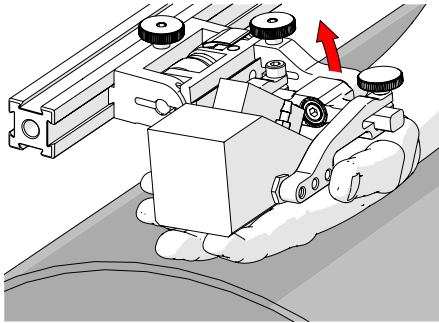

Fig. 50 - Lift to Latched position
1. Ensure the probe holder is in latched, upper position (Fig. 50). If the probe holder is already latched, it will only move within the slip joint adjustment range and have no spring tension.
1. Ensure the probe holder is in the upright latched position (Fig. 50).